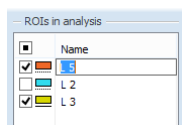

Figure 361 – Renaming the ROI with predefined name L3
3. Change the name directly in the list (see Figure 361).